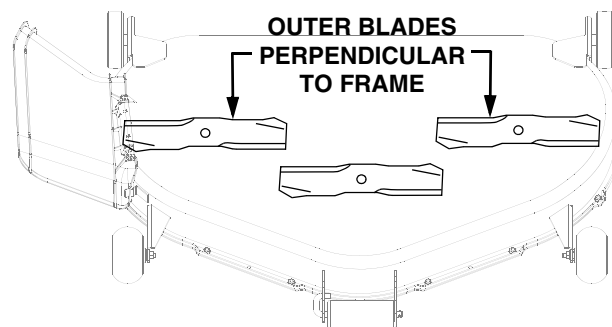

Figure 27
4. Carefully rotate the outer cutting blades so that they are positioned perpendicular to the tractor frame (See Figure 27).